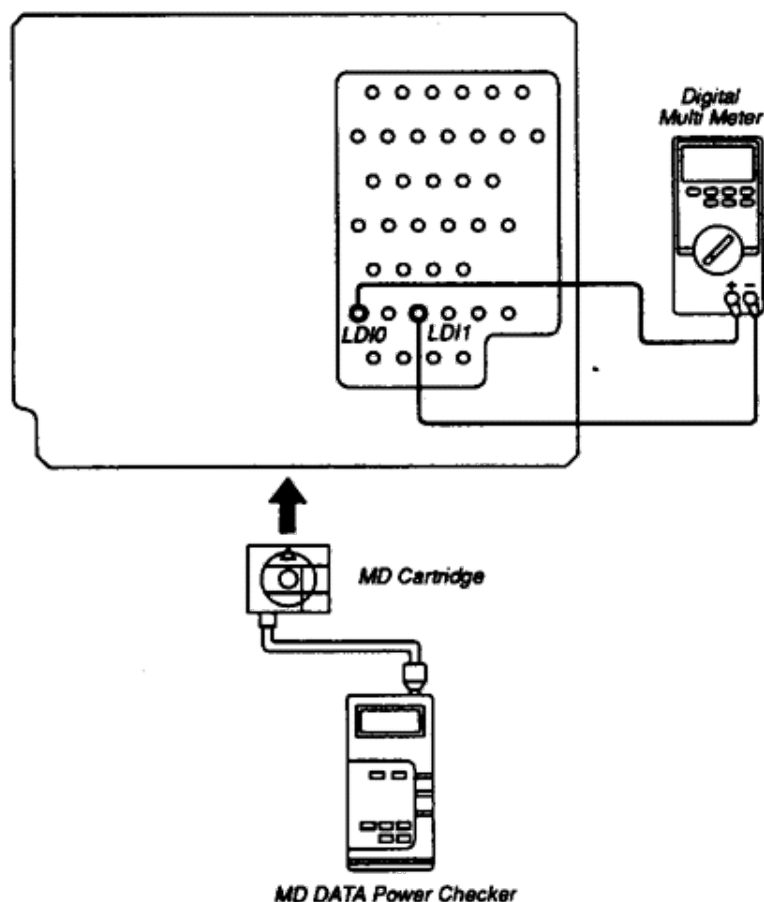

Fig. 5-2-3 Laser Power Adjustment
- b. Connect probes of Digital Multi Meter to LDIO (AP126) and LDI1 (AP127) on the Pin board. (Refer to Fig. 5-2-3)